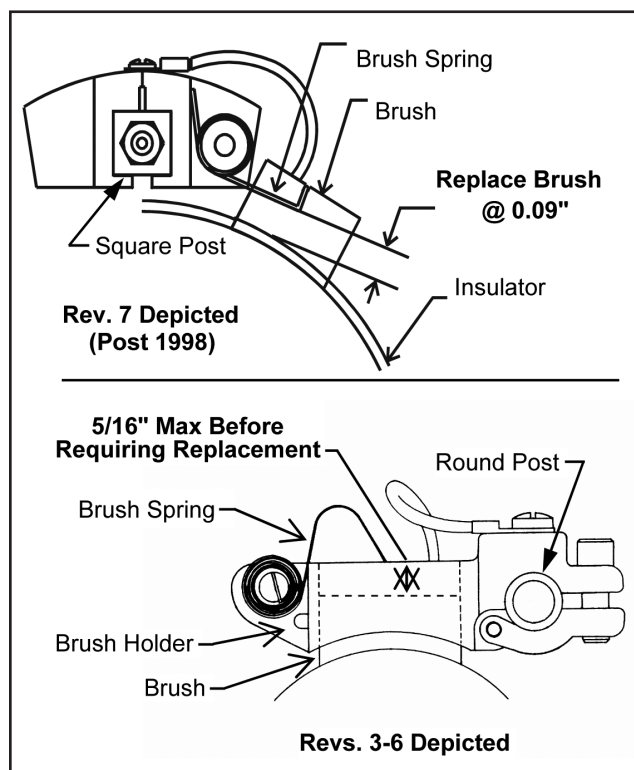

Figure 18-1
4. Replace Brushes when the brush spring is within 0.09" of the ring insulator. See **Figure 18-1**.